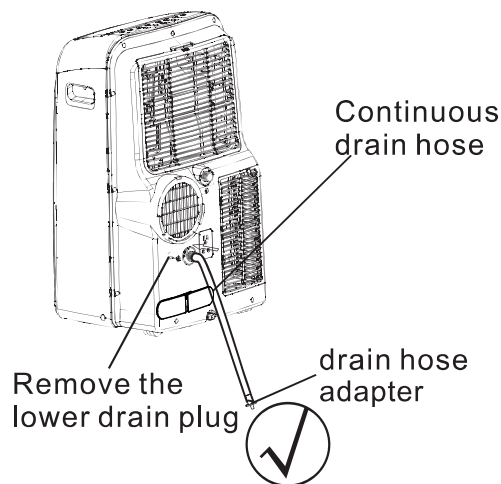

Figure 17b
- For units featuring a heat pump, remove the lower drain plug from the back of the unit, install the drain connector (5/8" universal female mender) with 3/4" hose (locally purchased). For the models without drain connector, just attach the drain hose to the hole. Place the open end of the hose adapter directly over the drain area in your basement floor. Please refer to Fig. 17b.